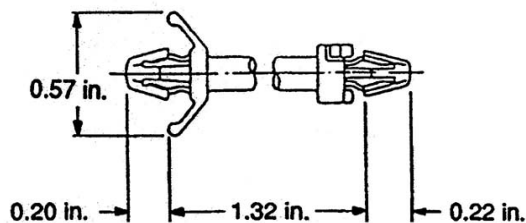

Figure 3. Mounting Spacer
1. Remove contents from package. Verify that a mounting spacer (P/N 5RNT41028-9) is included with the card. See Figure 3.